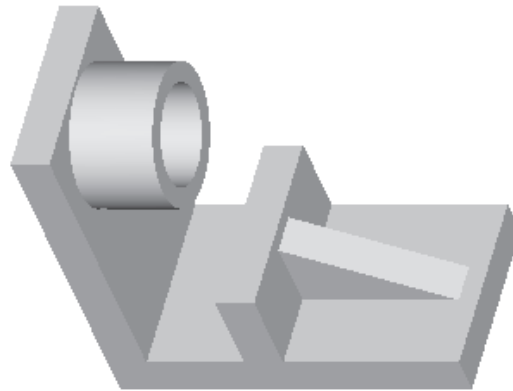

Figure 5-58 The default trimetric view of the final model
- e. Create a sketching plane for the rib feature, draw the sketch using the sketcher tools, apply the dimensions and constraints, and then give the thickness to the sketch, see Figure 5-58.
7. Enter a value of **8** in this window and press ENTER. This value is the thickness of the rib. The trimetric view of the complete model with the rib feature is shown in Figure 5-58.